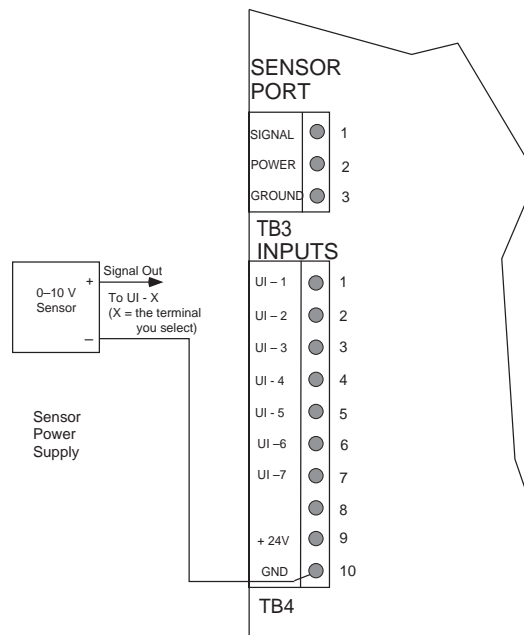

Figure 8. 0–10 Volt Sensor Connection
4. The 0–10 V sensor is typically powered by a separate external power supply. Connect the appropriate leads from the sensor power supply to the sensor (see Figure 8).